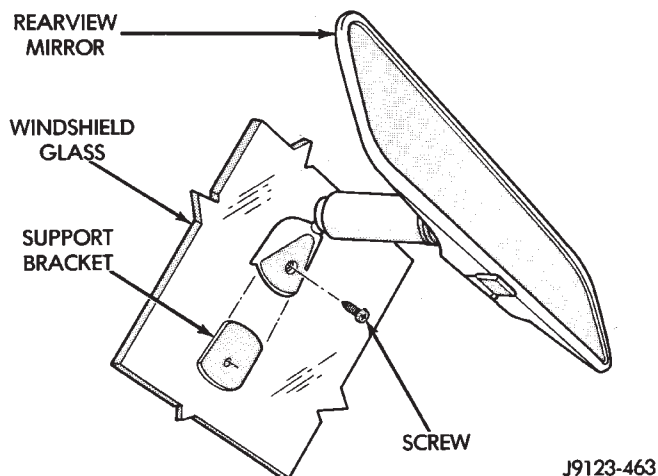

Fig. 1 Rearview Mirror Removal/Installation
- (1) Loosen the mirror set screw and slide the mirror up and off the retaining bracket (Fig. 1).
- (2) To install the mirror, slide the mirror onto the retaining bracket and install the set screw.
- (3) Tighten the mirror setscrew to 1 N·m (9 in-lbs) torque.
(8) Allow the adhesive to cure for 8-10 minutes, then remove any residue adhesive with an alcohol dampened cloth.
(9) Allow the adhesive to cure for an additional 8-10 minutes before installing the mirror on the retaining bracket (Fig. 1).